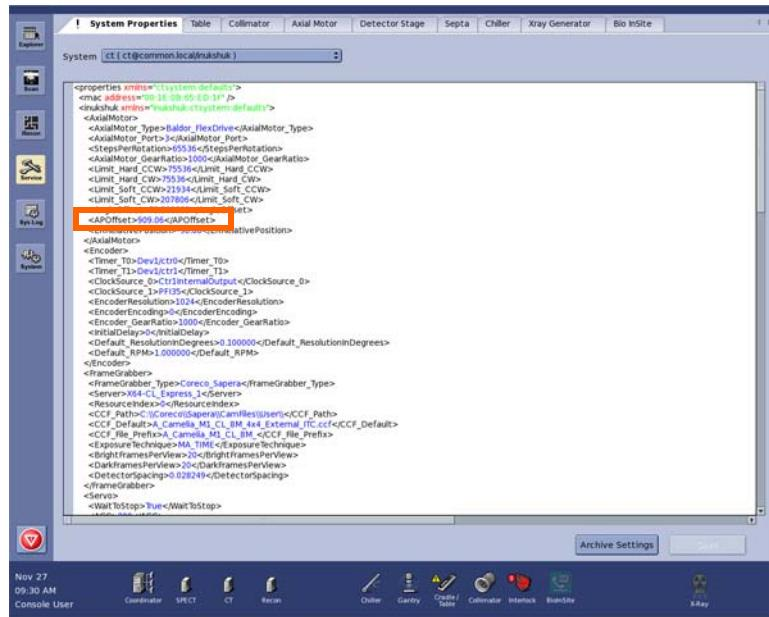

Figure 7-116
11. Navigate to the service page and click the *System Properties* tab. Select *ct* from the drop down list to display the properties for the CT subsystem (Figure 7-116).